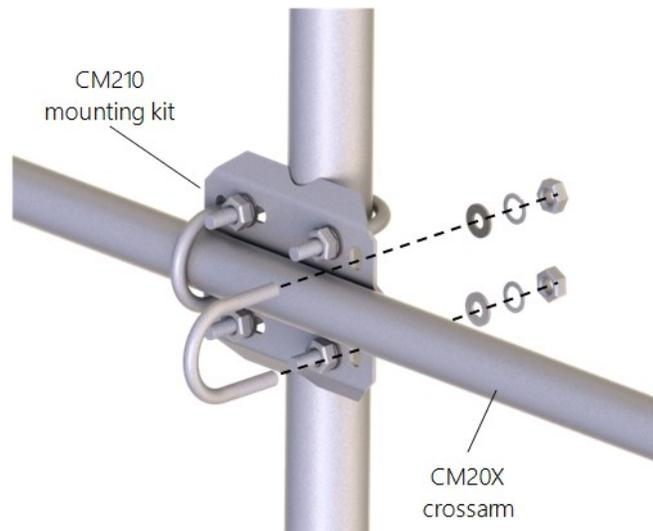

Figure 6-2. CM210 mounting kit with CM20X crossarm
1. Secure the chosen crossarm to a tripod or other vertical structure using a CM210 crossarm-to-pole mounting kit as shown in Figure 6-2 (p. 24).